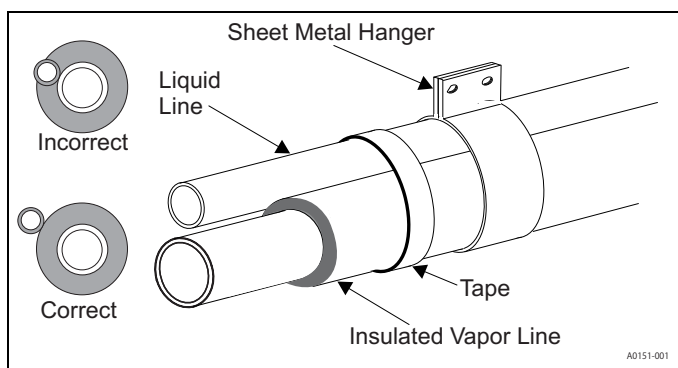

Figure 3: Installation of vapor line
- Tape and suspend the refrigerant lines as shown. **Do not** allow tube metal-to-metal contact. See Figure 3.